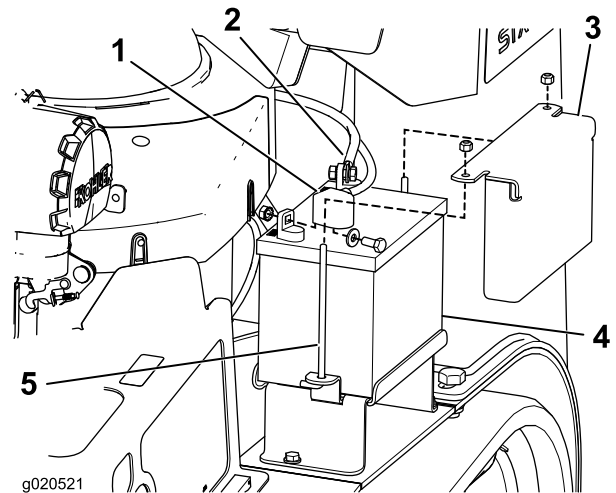

Figure 40
3. Lift the black rubber cover on the negative cable. Disconnect the negative battery cable from the negative (-) battery terminal (Figure 40).
4. Slide the red terminal boot off the positive (red) battery terminal. Then remove the positive (red) battery cable (Figure 40).
5. Remove the hold down plate, j-bolts, and locknuts securing the battery (Figure 40) and remove the battery.
1. Place the battery onto the machine (Figure 40).
3. First, install the positive (red) battery cable to positive (+) battery terminal with a nut, washer and bolt (Figure 40). Slide the rubber cover over the post.
- Then install the negative battery cable and ground wire to the negative (-) battery terminal with a nut, washer and bolt (Figure 40). Slide the rubber cover over the post.